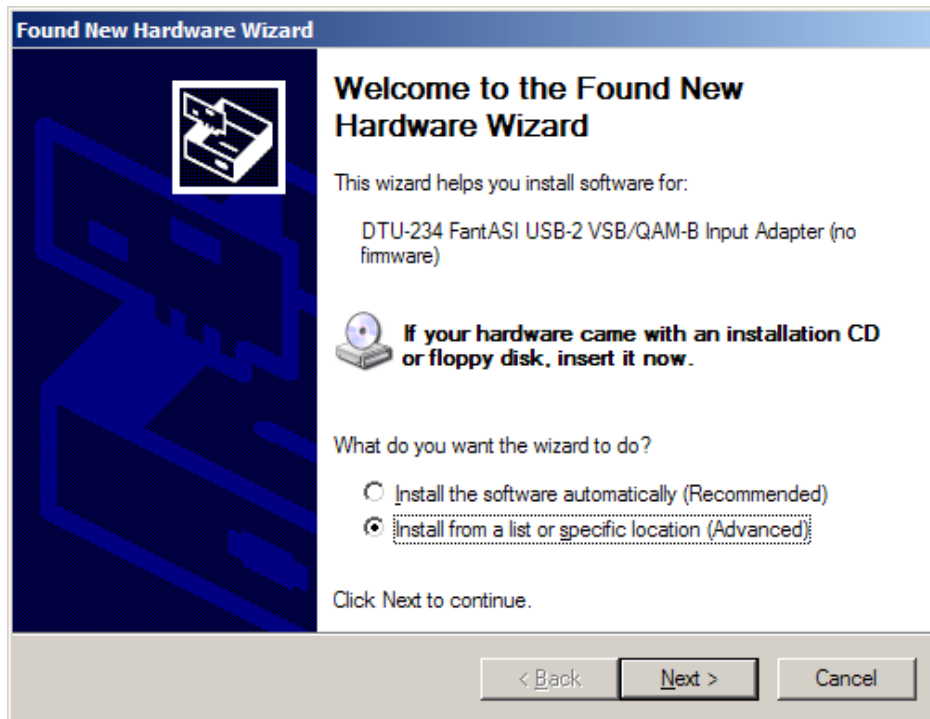

Figure 4. DTU-236 Hardware Installation
4. Insert the DTU-236 USB connection into your PC or Laptop. You will be prompted to install new hardware. Manually direct the hardware installer to browse to the :\\program files\\Sencore\\RFXpert\\Drivers folder to load the driver and install the device (Figure 4 & 5). It may require you to do this two times. You may also need to repeat this process any time that the DTU-236 has been removed and reinstalled on your system.